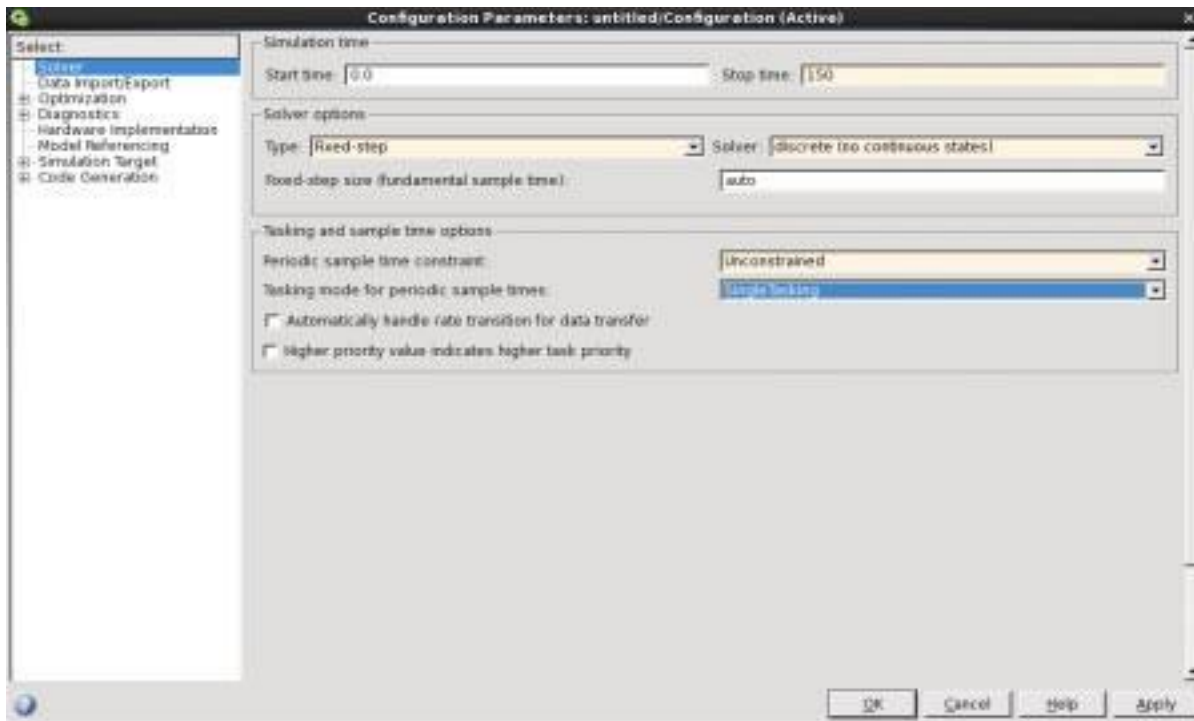

Figure 8: Setting the Configuration Parameters.
8. The next step is to specify the simulation stop time and to set some options which control the simulation. From the Simulink Model window select **Simulation -> Model Configuration Parameters**. In the Configuration Parameters window specify the following (refer to Figure 8):